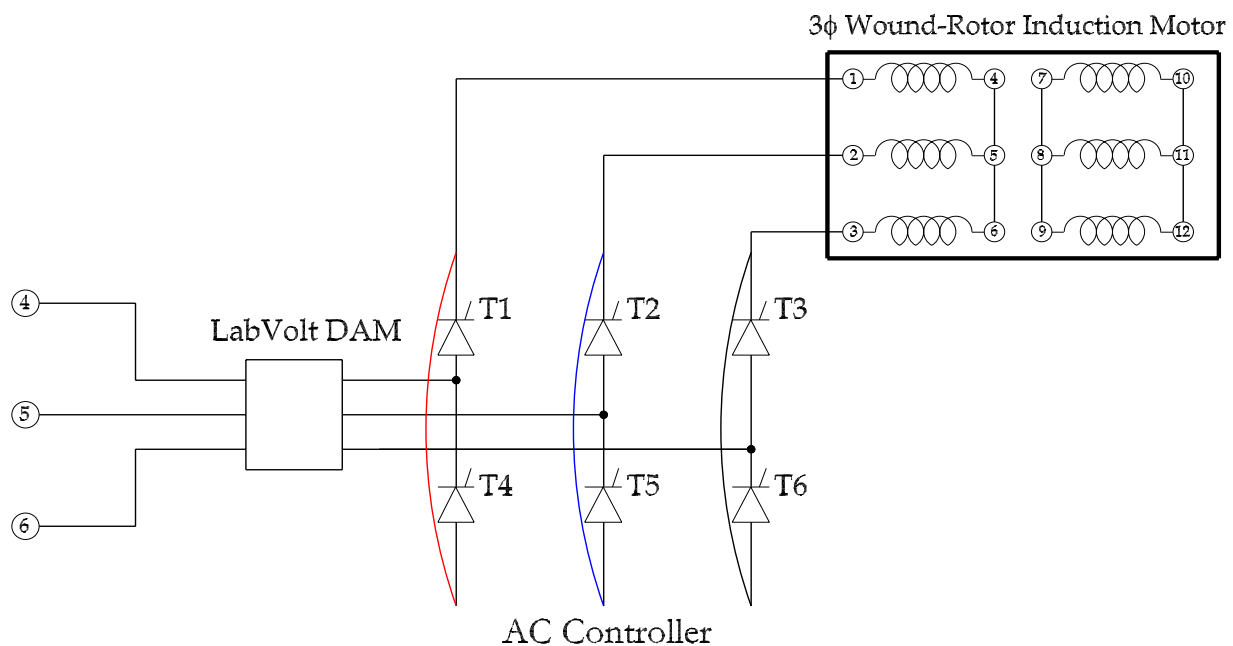

Figure 1: The 3 $\phi$  thyristor AC controller.
STEP 1: Construct the circuit shown in Figure 1.